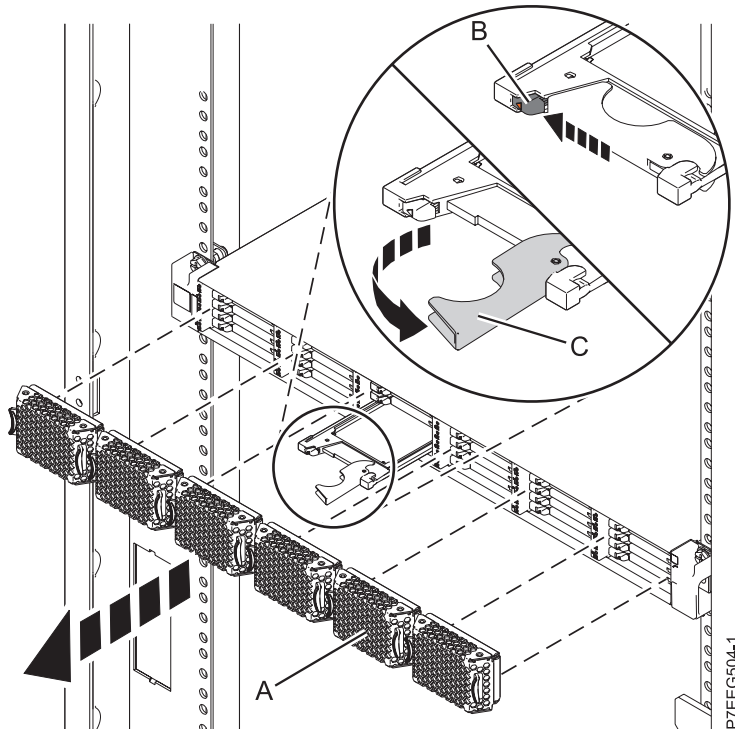

Figure 26. Removing the solid-state drive from the ED/R1 PCIe storage enclosure
1. Pull off the bezel (A) that covers the slot that contains the solid-state drive. See Figure 26 on page 42.
2. Slide the release latch (B) over gently to unlock the drive handle.
3. Grasp the handle (C) and pull the drive partially out of the slot.